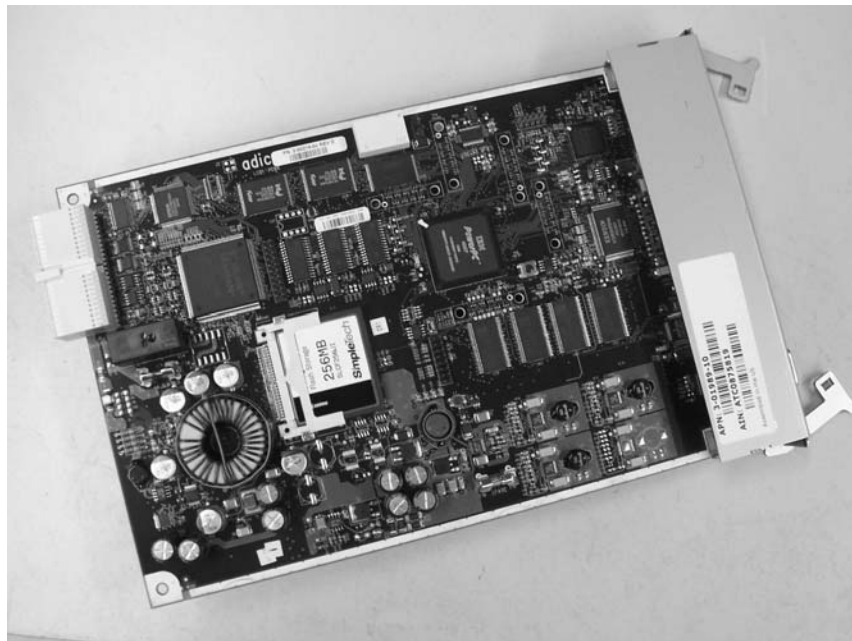

Figure 8-28. Library Control Blade (LCB)
- Once the LCB has been removed from the control module, carefully lay it (Figure 8-28) on a clean, flat surface.
Important: DO NOT touch any components on the LCB firmware board (see Figure 8-28). Hold it by the metal cover and support it by the metal ground plane only.